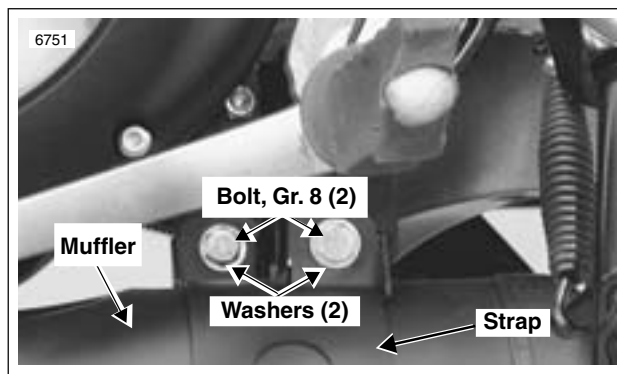

Figure 2-95. Rear Muffler Mounts
1. See Figure 2-95. Remove two bolts, washers and locknuts securing rear of muffler to Z-bracket.
6. See Figure 2-95. Position muffler and install to rear mounting support and weldnuts in rear muffler straps with two sets of bolts, washers and locknuts. Tighten to 22-24 ft-lbs (30-33 Nm).